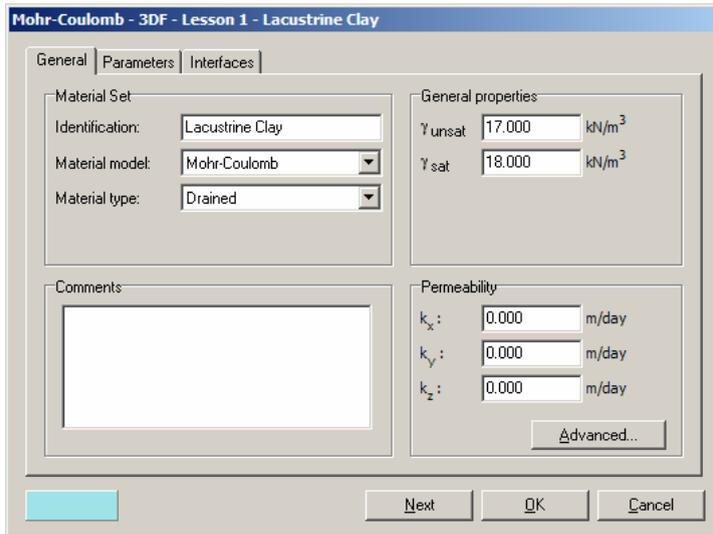
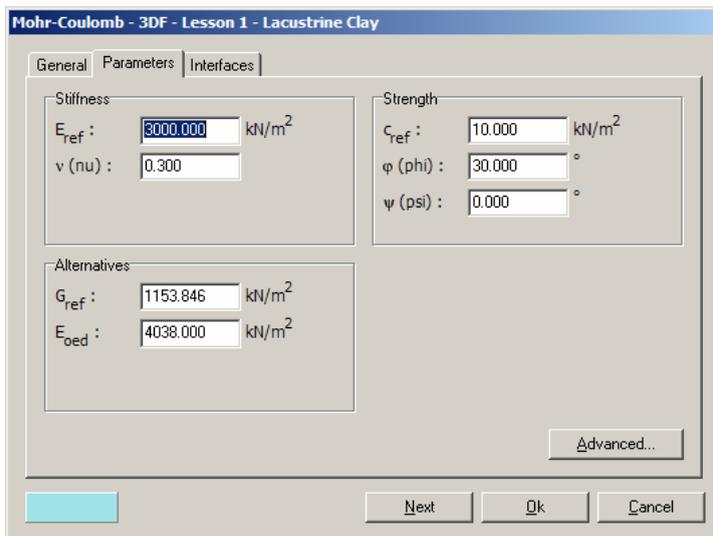

Figure 3.10 *General* tab sheet of the soil and interfaces data set window
Figure 3.11 *Parameters* tab sheet of the soil and interfaces data set window
- Click the <New> button on the lower side of the *Material Sets* window. A new dialog box will appear with three tab sheets: *General*, *Parameters* and *Interfaces* (see Figure 3.10 and Figure 3.11).